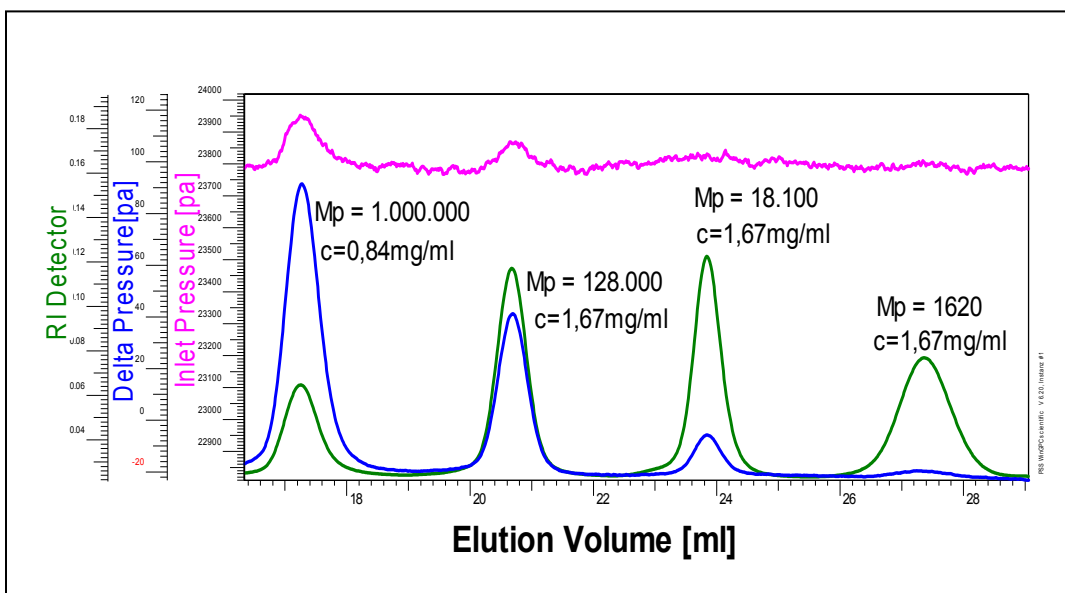

Figure 1
bridge design offered by PSS, the flow split is 80:20 (sample: reference), so much greater mass gets detected, (i.e. greater sensitivity). The result is much better signal-to-noise, even at very low molecular weights, and superior response over the older bridge design throughout the entire MW range, even as low as a few hundred Daltons. This becomes clear in Figure 1, which displays the GPC separation of four polystyrene standards (PS ReadyCal red) detected through refractive Index (RI) signal [Agilent HP 1100] and viscosity signals: inlet and delta pressure from the viscometer **ETA 1001**, captured with the power of WinGPC Unity software and viscosity module.
Note the quality of the delta pressure in comparison to inlet pressure signal. The lower molecular weights are still detectable by the four-capillary viscometer, even at concentration and injection volume typical of conventional GPC. The standard with lowest molar mass is detectable. (Mp = 1620 D, c = 1.6729 mg/ml). It is safe to say that the four capillary asymmetric design used in the ETA 1001 shows unsurpassed sensitivity, easily detecting compounds down to a few hundred molecular weight. The polystyrene data presented in Figure 1 also point out the difference between a concentration detector and a detector sensitive to molar mass. Since the RI detector's signal power depends only on sample concentration, the peak heights and areas of all standards are proportional to the concentration. Conversely, the viscometer's peaks of high molecular weight standards are more intense than peaks produced by low molecular weight species, because the signal intensity responds to concentration and viscosity.